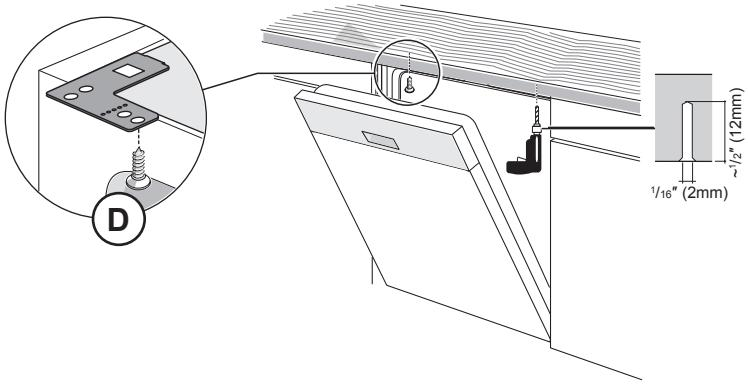

Figure 19
1. Drive the mounting screws through the holes in the mounting brackets as shown for Top (Figure 18), Side Mount (Figure 19) and Alternate Side Mount (Figure 20).